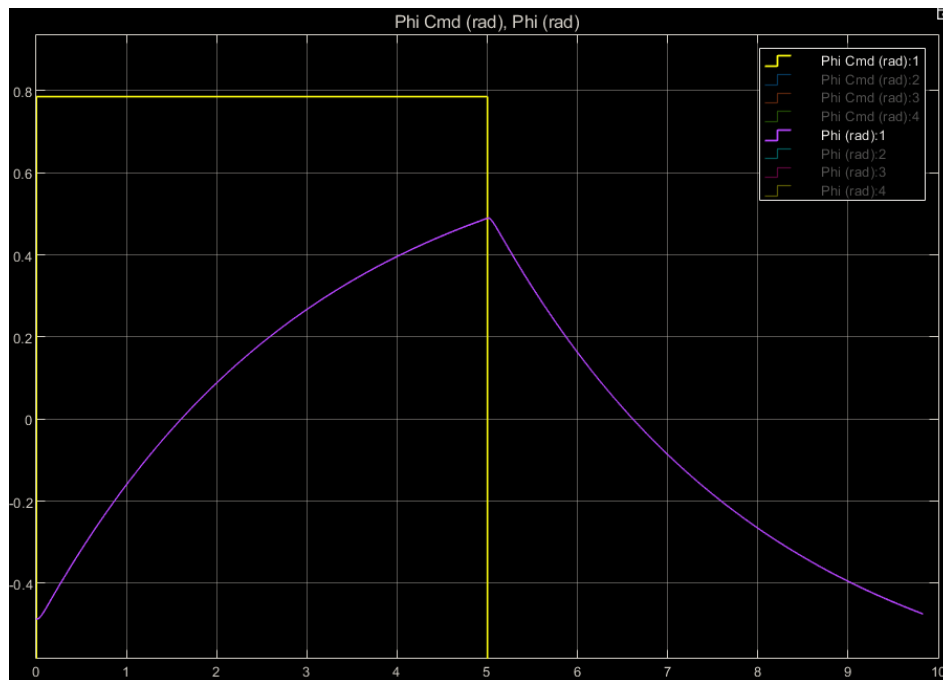

Figure 2.3 Plot of QArm response to pulse input with proportional gain of  $[0.1 \ 0.1 \ 0.1 \ 0.1]$
- Keep the proportional gain matrix  $K_p$  at  $[0.1 \ 0.1 \ 0.1 \ 0.1]$  (it is a  $1 \times 4$ , one gain for each joint). To apply a pulse signal to a joint you will need to toggle one of the switches in the Exploration Box to be 'ON'. Start by toggling the Base joint. Set the gain block after the Base signal generator to 1 and leave the bias block set to zero for now. The pulse input applied to the arm oscillates between  $\frac{\pi}{4}$  and  $-\frac{\pi}{4}$  (+45 and -45 degrees). You can use the Controller Performance scope to monitor the arm's response, and you will also be able to see the physical arm responds. You can turn **off** all plotted lines **apart from** 'Phi Cmd (rad) 1' and 'Phi (rad) 1' by clicking each coloured line and you should see the response shown in Figure 2.3.